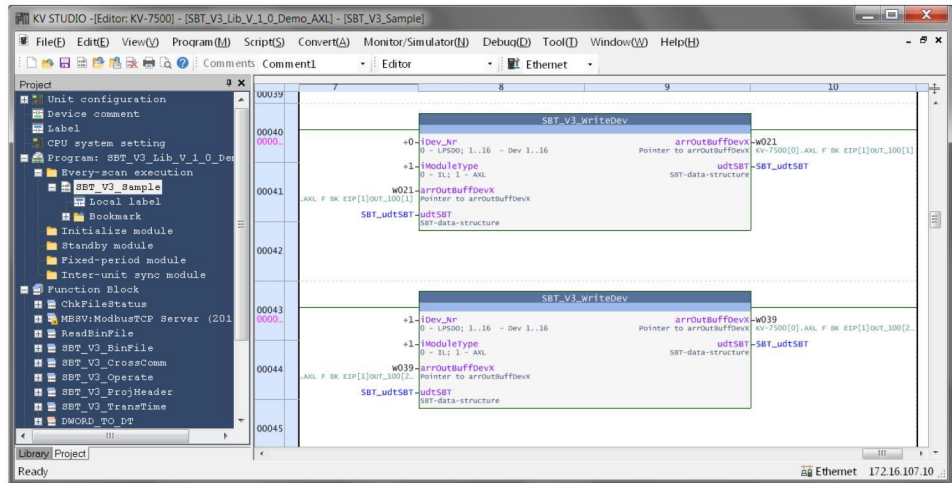

Figure 4-24 SBT\_V3\_WriteDev function blocks
- Connect the function blocks as shown in Figure 4-24.